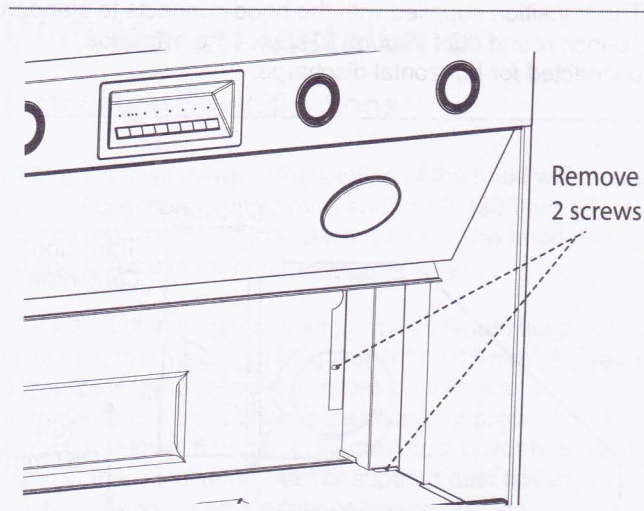
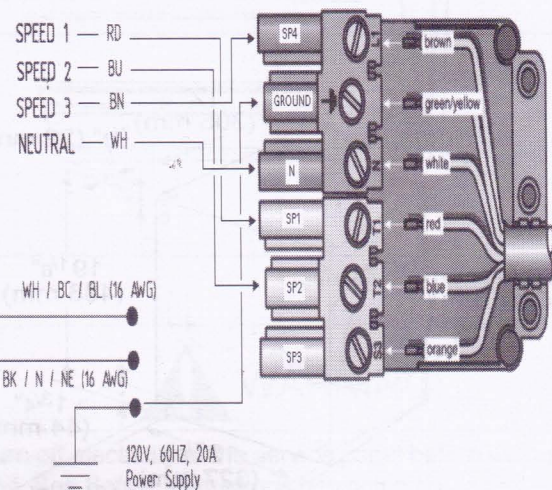

Figure 12: Junction Box Channel
Figure 21: Wiring the Hood with a Remote Blower
1. Remove junction box channel covering the wires (see Figure 12 on page 10).
2. Remove circular knockouts (Figure 12 on page 10).
1. Remove junction box channel covering the wires (see *Figure 12 on page 10*).
2. Remove circular knockouts (*Figure 12 on page 10*).
- Lost or missing wire nuts should only be replaced with spring type wire nuts, rated for a minimum of two (2) #18 gauge wires and maximum of four (4) #14 gauge wires, UL & CSA rated to 600V and 302°F (150°C).
7. Run five (5) #14 AWG wires in 1" (25.4 mm) conduit from the remote blower to the second conduit connector.
8. Connect the remote blower to the pigtail wires as per *Figure 21*. Connect the remote blower green (ground) wire to the ground screw in the junction box. Refer to the blower installation instructions for further wiring details.